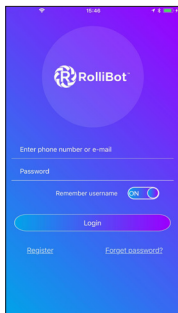

Fig. 1
Step 2. Register for an account. Then sign in with your Rollicool account details on the app (fig. 1).